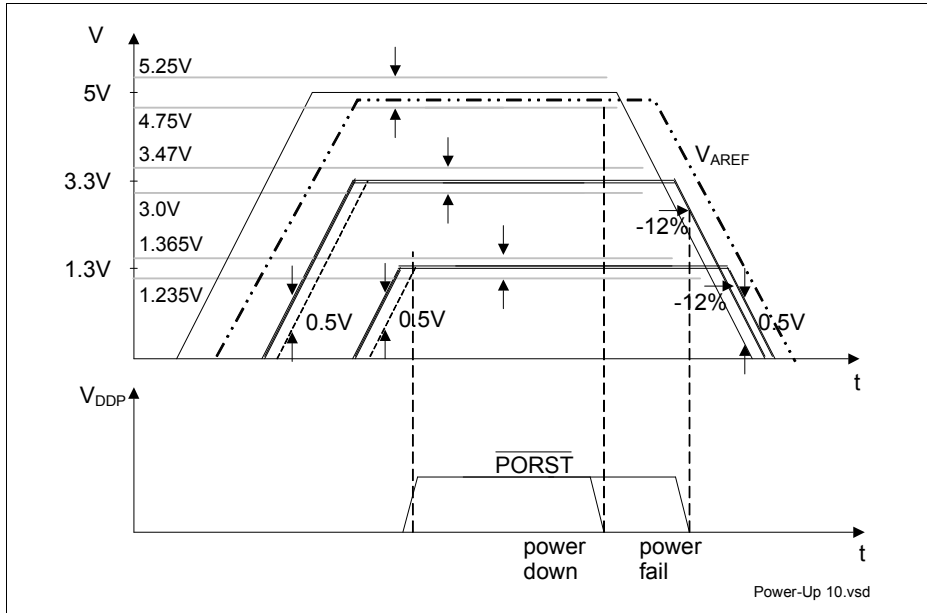

Figure 12 5 V / 3.3 V / 1.3 V Power-Up/Down Sequence
- At any moment in time to avoid increased latch-up risk, each power supply must be higher than any lower_power_supply - 0.5 V, or: $V_{DD5} > V_{DD3.3} - 0.5 \text{ V}$; $V_{DD5} > V_{DD1.3} - 0.5 \text{ V}$; $V_{DD3.3} > V_{DD1.3} - 0.5 \text{ V}$, see **Figure 12**.